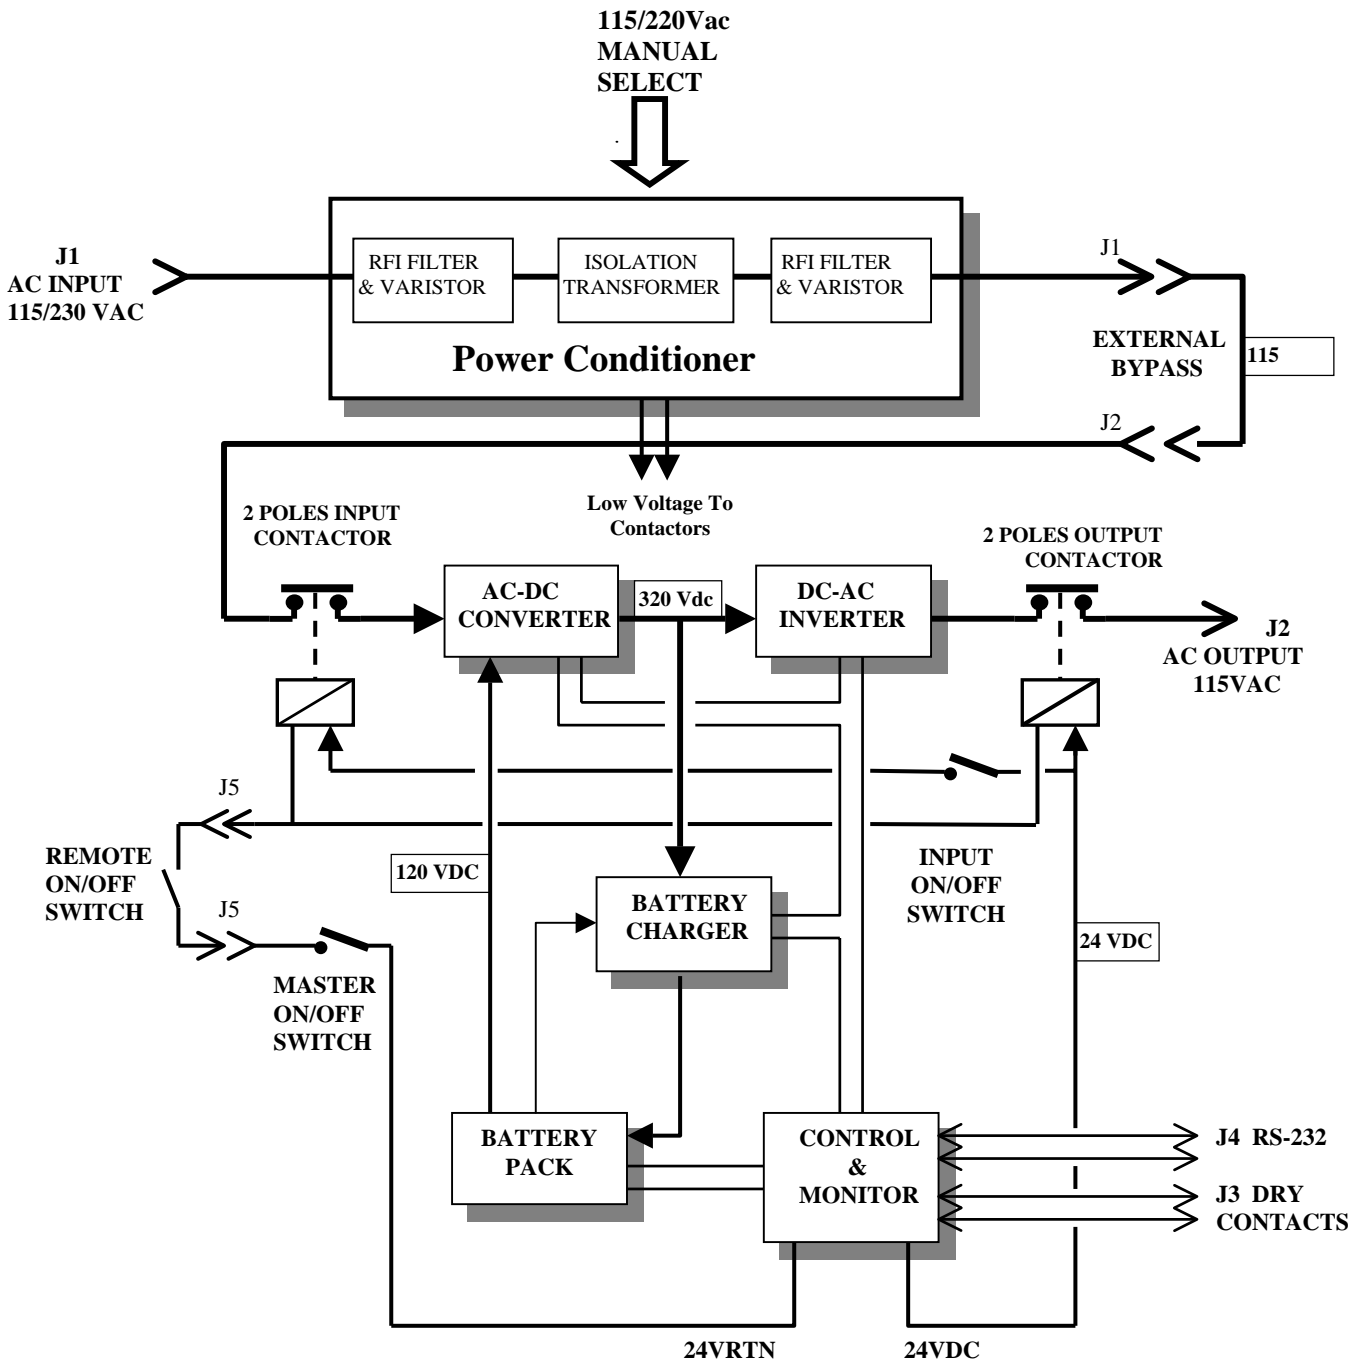
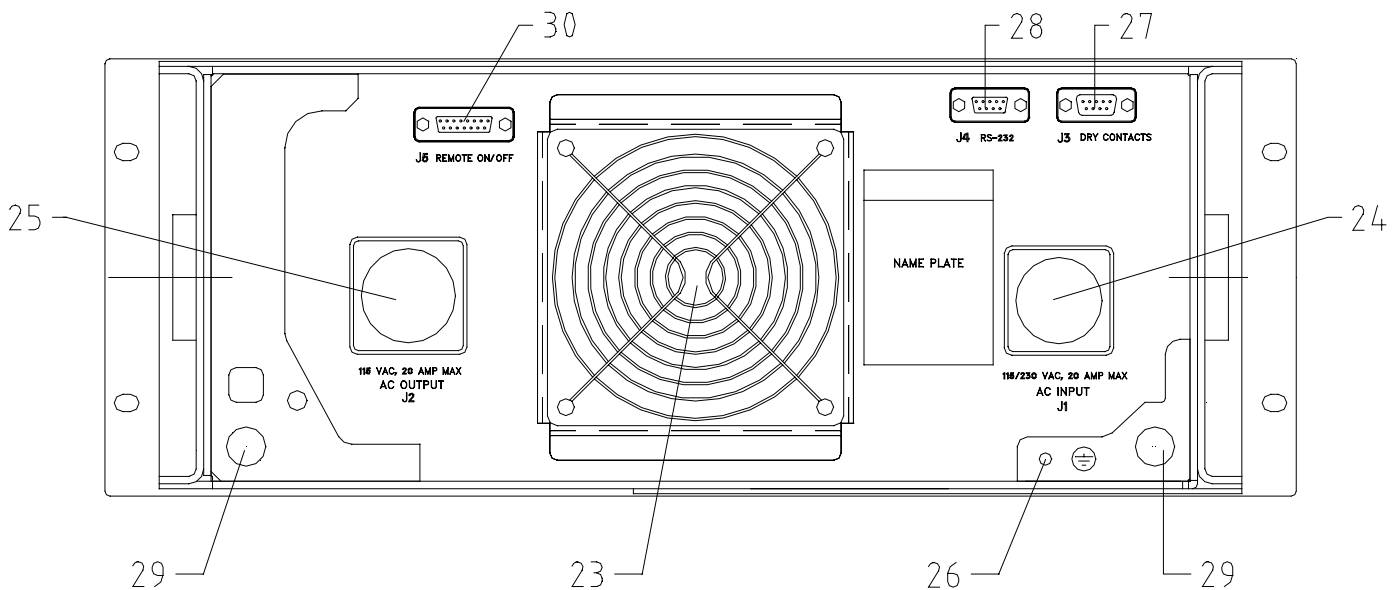

Figure 1: M110BA-1 Block Diagram
Figure 6 - Rear Panel
The M110BA-1 consists of two main sections: Power Conditioner and UPS (see Fig. 1). The Power Conditioner is an isolation transformer (with RFI filters and spike absorbers). Both the input and output of the Power Conditioner are available to the user via the external connectors of the unit. This configuration allows the user to externally bypass the UPS section of the M110BA-1 without losing the surge protection and noise filtering provided by the Power Conditioner. This capability is extremely important in shipboard applications since most standard commercial equipment is designed to operate safely from grounded AC lines, whereas in standard shipboard electrical systems both lines are HOT and none may be grounded. The power conditioner allows the safe connection of commercial equipment to standard shipboard electrical systems without creating a safety hazard. See Section 3 for detailed connection diagram. In addition to 115Vac, the isolation transformer provides a low voltage for the 24Vdc contactor supply. When AC input drops, the 24Vdc is provided from battery power.
Two circular connectors (J1 and J2) are provided on the rear panel of the UPS (see Figure 6). J1 is the input connector to the Power Conditioner section of the unit. J2 carries the output of the Power Conditioner and both input and output of the UPS section. (Please refer to Fig. 1 for the definitions of the Power Conditioner and the UPS sections.)
5. Rear Panel Description (See Figure 6)